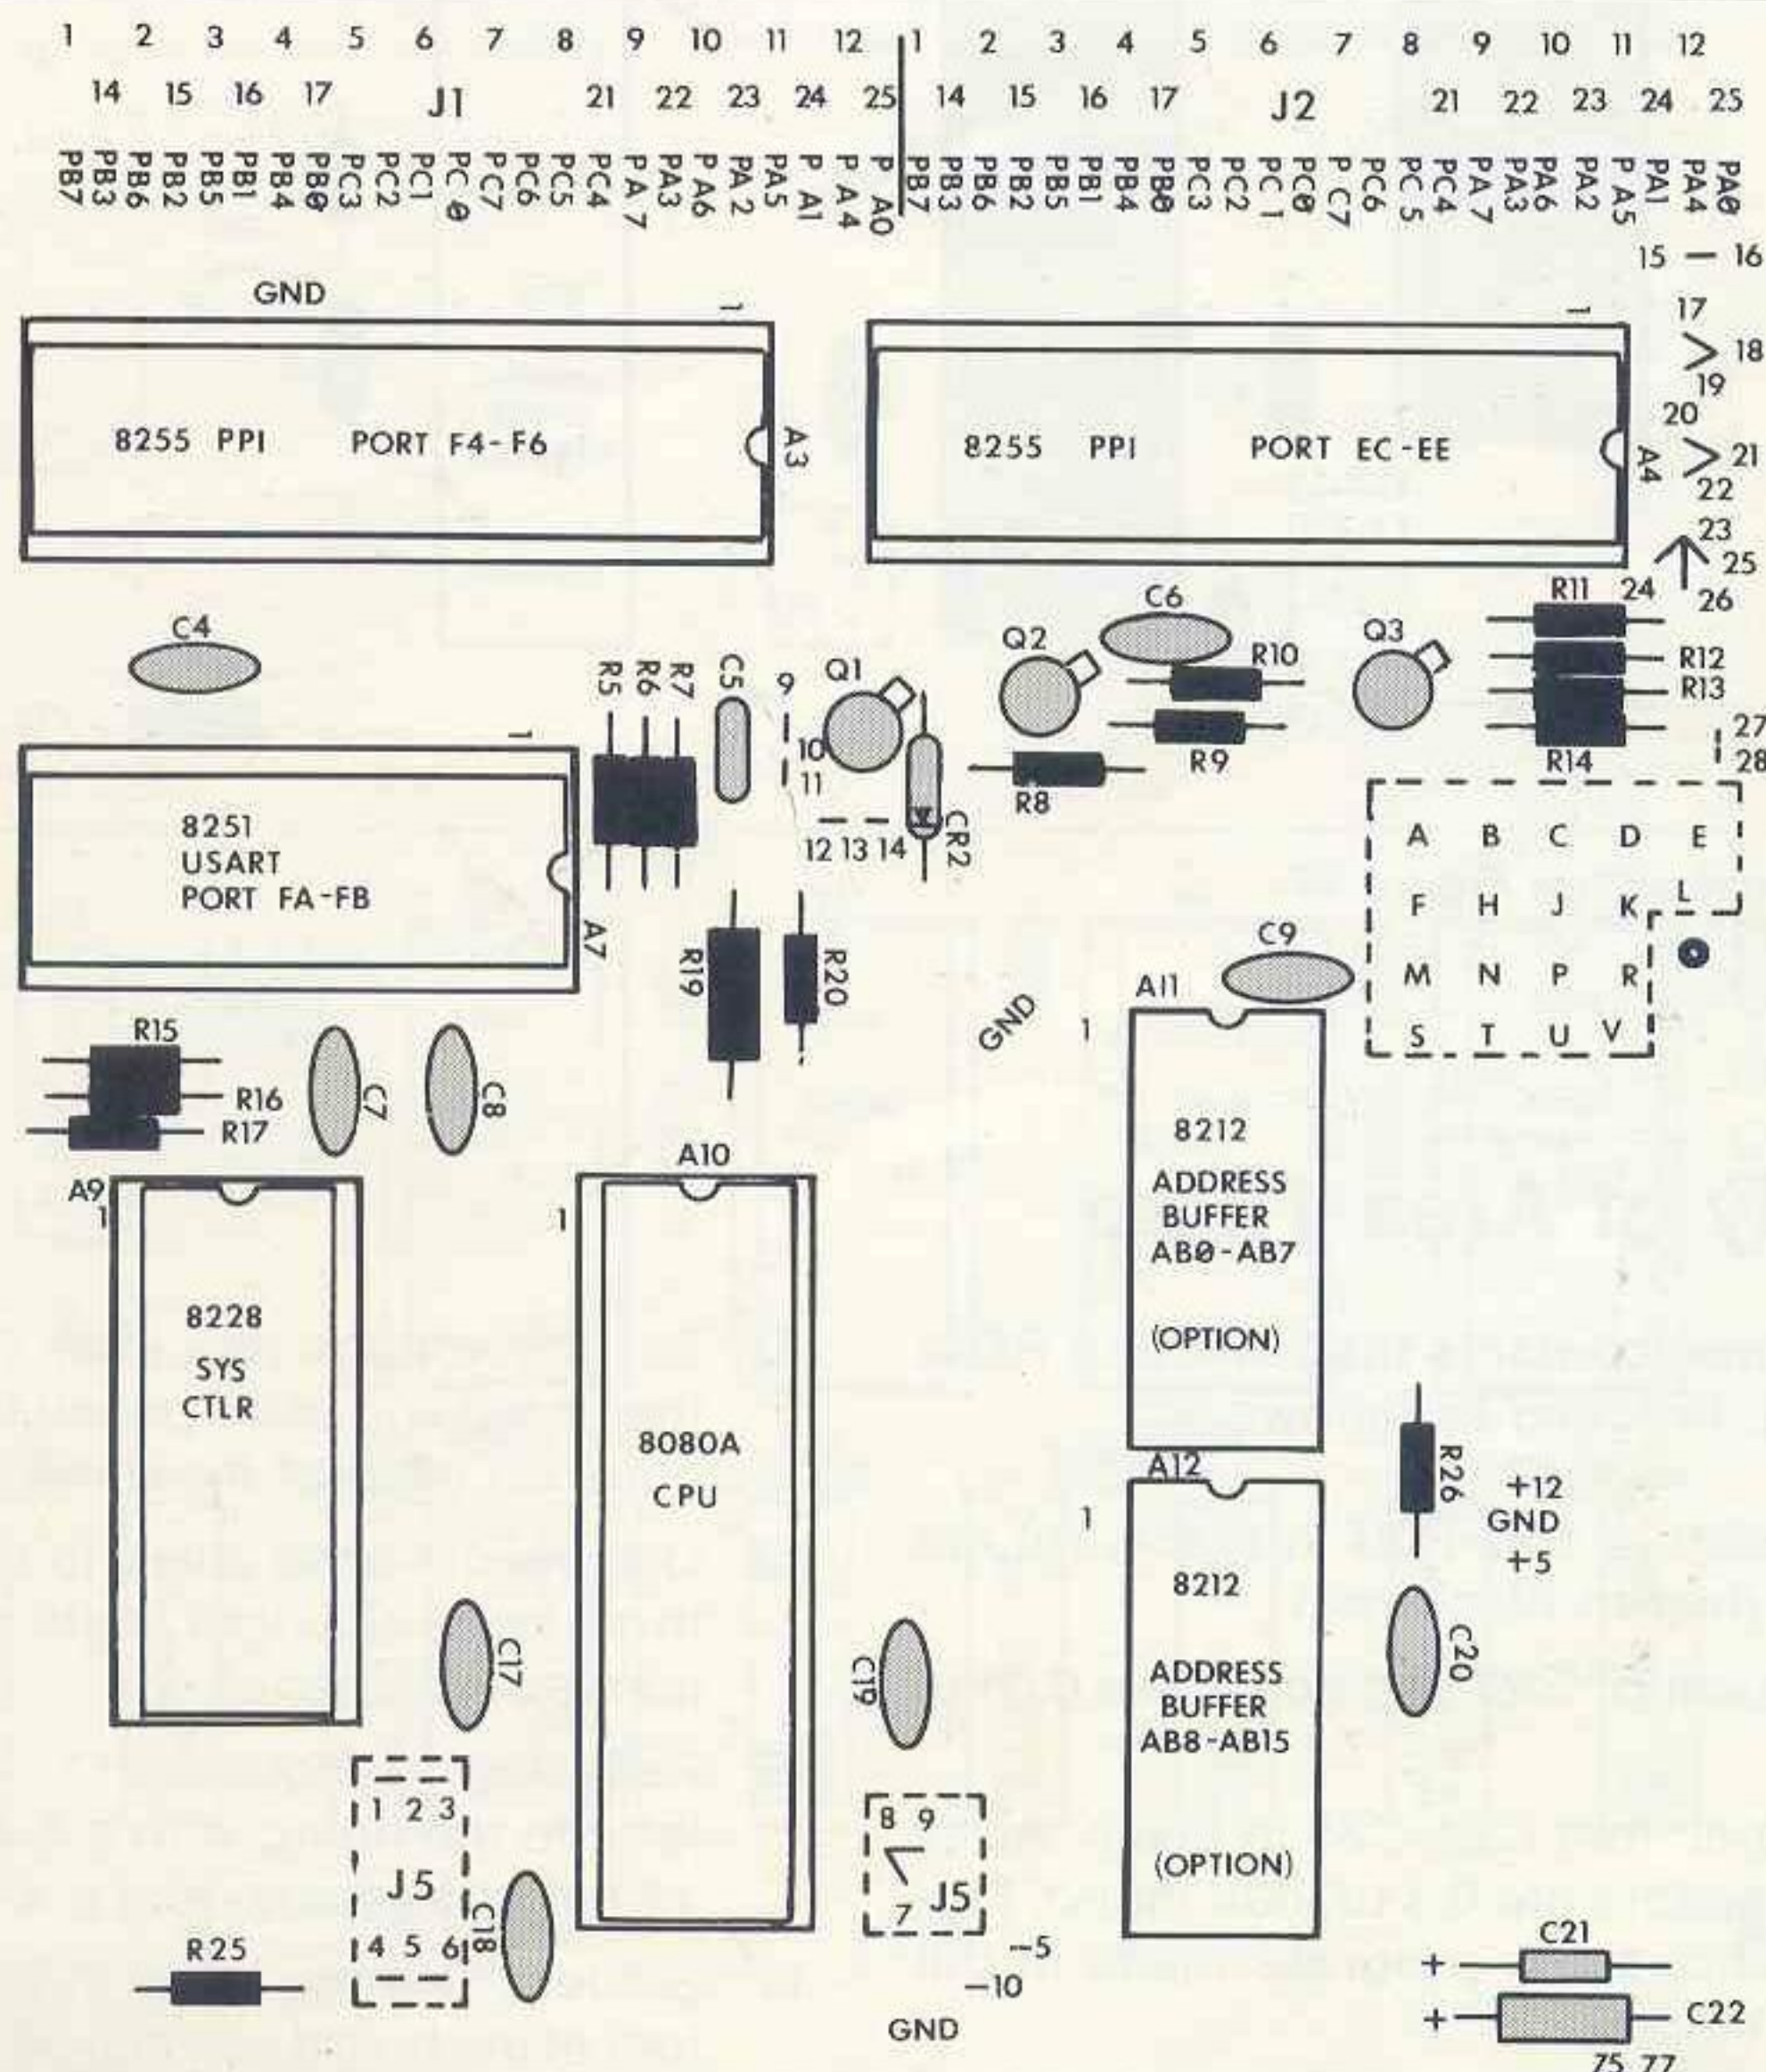

Figure 2-8. Construction Figure #6.
- ✓ Solder diode CR2 into place. Make sure the arrow is as shown on the board. Figure 2-8 shows the progress made in the last three steps.